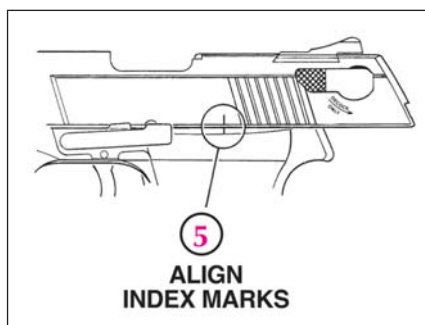
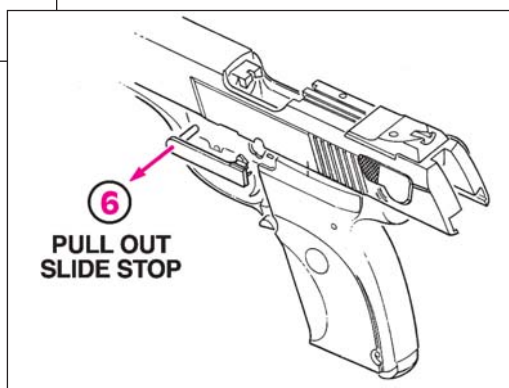

FIGURE 7
FIGURE 8
4. Remove fingers from ejection port. Grasp slide tightly. Now press down on slide stop and allow slide to move slowly forward until the vertical disassembly line on the frame is aligned with the vertical disassembly line on the slide. (See Figure 7, above.) Press in on right-hand end of slide stop and pull slide stop out of frame to the left until it is withdrawn completely out of the frame. (See Figure 8, above.)